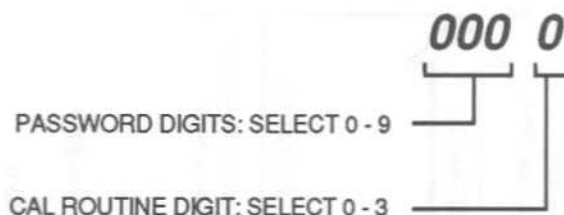

Figure 6-7. CAL Password and Routine Digits
- (3) Press the FUNCTION ▼ pushbutton. The display shows the password and function digits (see Figure 6-7). Note that the left-most digit is flashing.